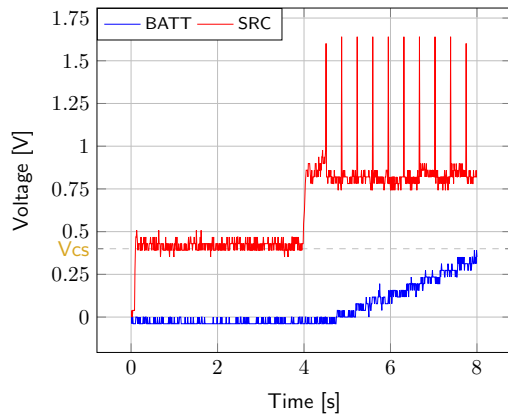

Figure 6: AEM30940 behaviour during cold start
- **SRC**: Equal to the cold-start voltage during the cold-start phase. Regulated at the selected MPPT percentage of V_{oc} when cold start is over (see Figure 6). Be careful that the cold-start phase time will shorten with the input power. Limit it to ease the observation.
- **BATT**: Starts to charge when the cold-start phase is over (see Figure 6).